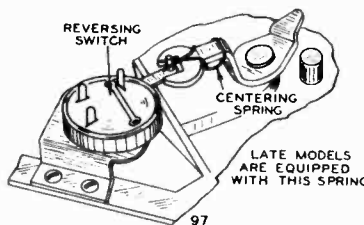

Fig. 23—Centering Switch on Reversing Switch Lever
(185) If the dial pointer reaches the end of the scale and stops, but the motor continues to operate, loosen the reversing switch mounting screws and adjust the position of the bracket up or down until the switch operates properly. If this procedure does not remedy the condition, put one of the centering springs on the reversing switch—one of these can be obtained from the factory. Later models are already equipped with this spring—See Fig. 23.